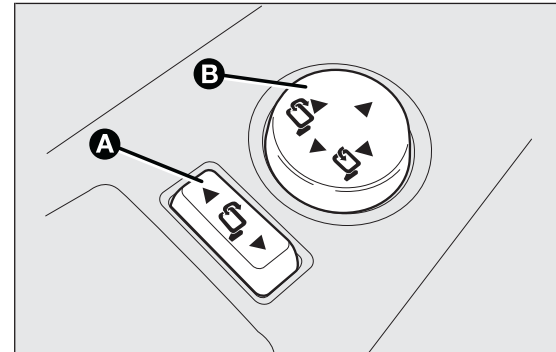

fig. 38
- position selector A fig. 38 in neutral position (no mirror selection);
- fold the mirror using joystick B in the side directions fig. 38;